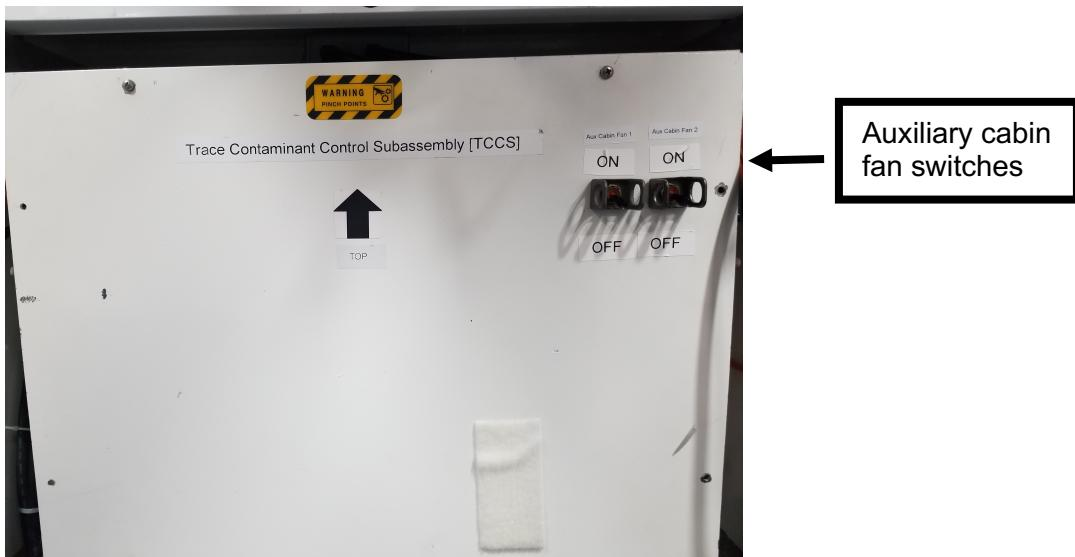

Figure 3: Trace Contaminant Control Subassembly (TCCS) Panel
- 2.3 On TCCS Panel, check power switches of Aux Cabin Fan 1 and Aux Cabin Fan 2 are "OFF" (see Figure 3).
- 4.1 Move to TCCS Panel (see Figure 3) and attach static wrist tether to any unpainted metallic surface.
9.1 On TCCS Panel, flip power switches of Aux Cabin Fan 1 and Aux Cabin Fan 2 to "ON" (see Figure 3).